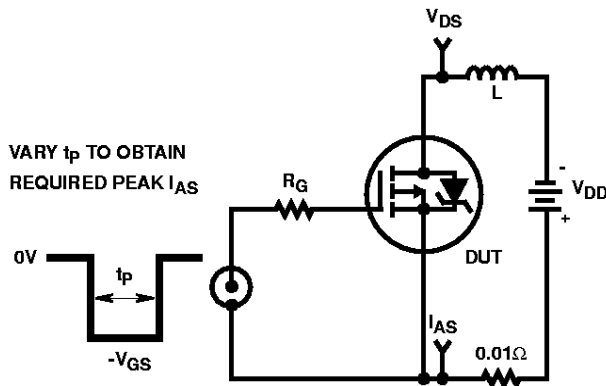

FIGURE 15. UNCLAMPED INDUCTIVE ENERGY TEST CIRCUIT
- $V_{DD} = 25\text{V}$ , starting  $T_J = 25^\circ\text{C}$ ,  $L = 4\text{mH}$ ,  $R_G = 25\Omega$ , peak  $I_{AS} = 19\text{A}$ . (Figures 15, 16).